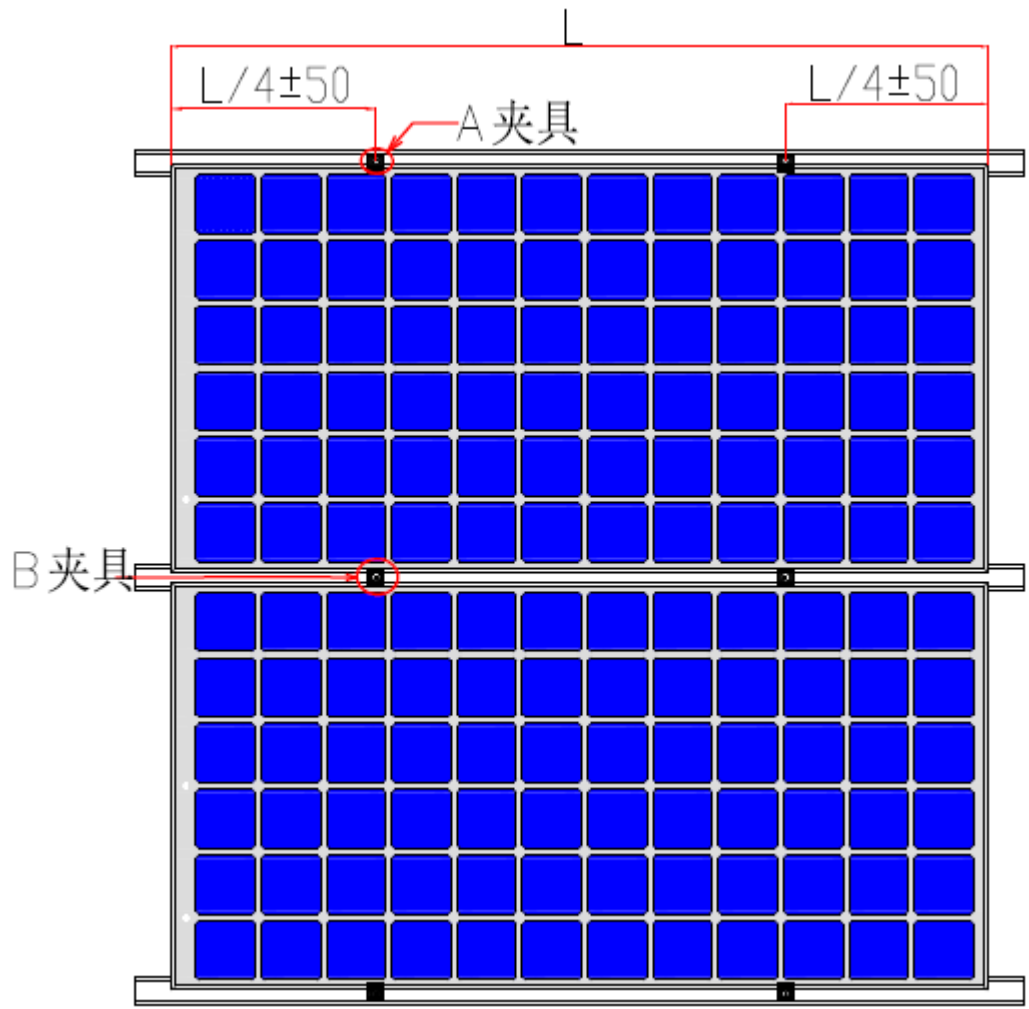
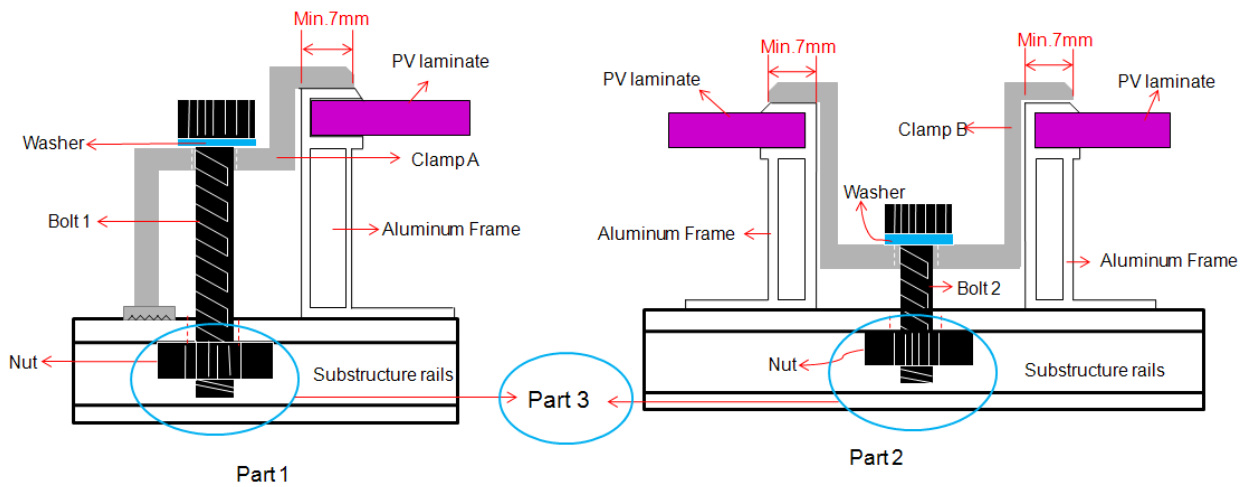

Figure 8 Mounting instruction
Figure 9 Mounting detail
Modules should be mounted using specialized clamps as shown in Figure 7, Figure 8 and Figure 9
F) Mounting method ( showed in Figure 8)